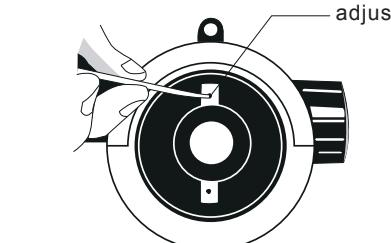

Fig.13
(2) Move the instrument 2m away from A, the readings are  $a_2, b_2$  (Fig.13)